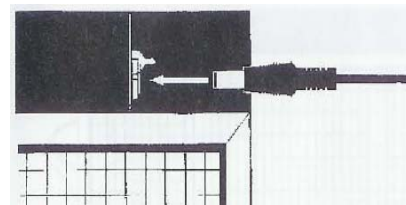

Figure 6
- 11) Plug the power supply cord into the air cleaner once it is securely in place (fig 6).